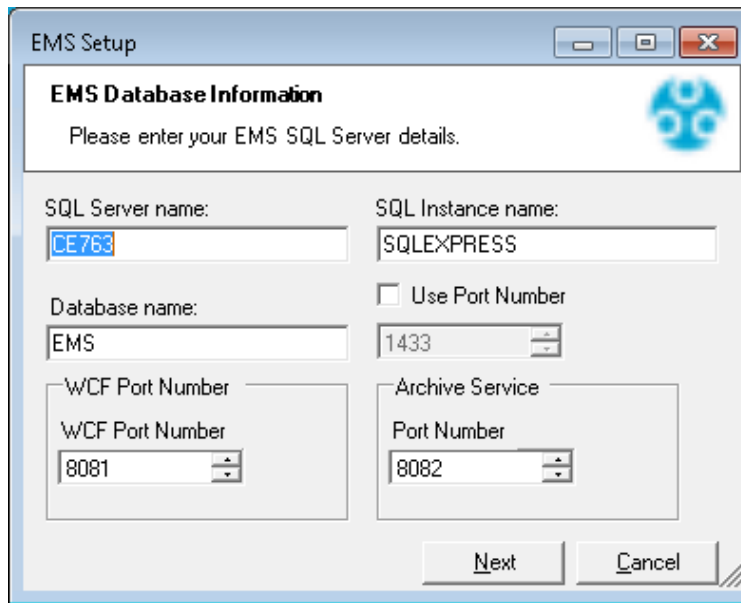

Figure 60
For an **EMS W900A** installation, the **EMS Setup – EMS Database Information** window is displayed, populated with a series of default settings. See Figure 60 below:
- When installing to a machine with **NO EXISTING** Microsoft SQL Express installation, leave the settings, shown in Figure 60 above, at their default values.
- When installing on a machine with **AN EXISTING** Microsoft SQL Express installation, the **SQL Server name:** and **SQL Instance name:** fields, shown in Figure 60 above, must be set to the existing **Microsoft SQL Express Server Name** and **Instance Name**.
1. Once completed click **Next**. See Figure 60 above.